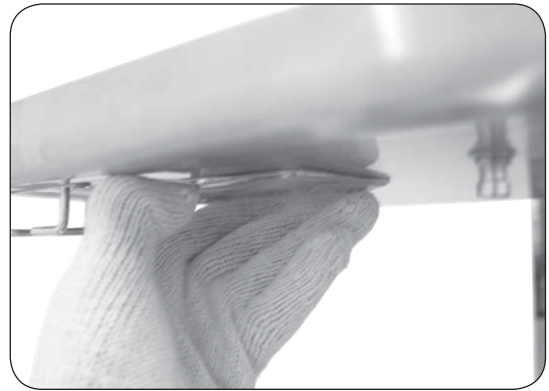

Fig. 8-1 Pry glass lens out
2. Carefully insert a standard flat head screwdriver or a thin plastic spatula between the glass lens and the stainless steel on which the light is mounted, and gently pry the glass lens out in such a way that the stainless steel is not scratched (twisting the screwdriver handle, for instance). See Fig. 8-1. Catch the lens (Fig. 8-2) and set it safely aside.